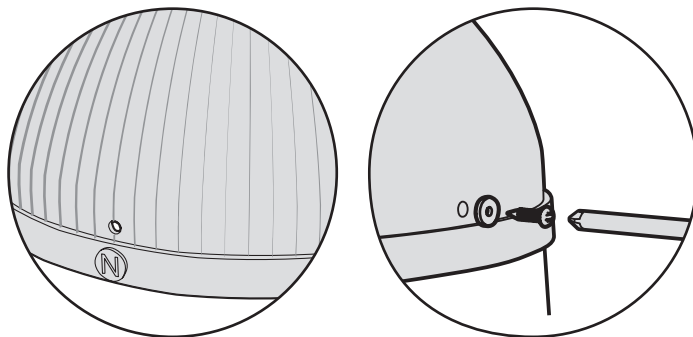

Figure 10 - Mounting the Skylight Dome
Next, slide the skylight dome onto the flashing assembly. Align the dome so that the engraved label "N" on the dome's collar faces toward the North. Secure the dome to the roof flashing using the (4) 3/4" phillips head screws and (4) neoprene bonded washers included with your kit (see Figure 10).